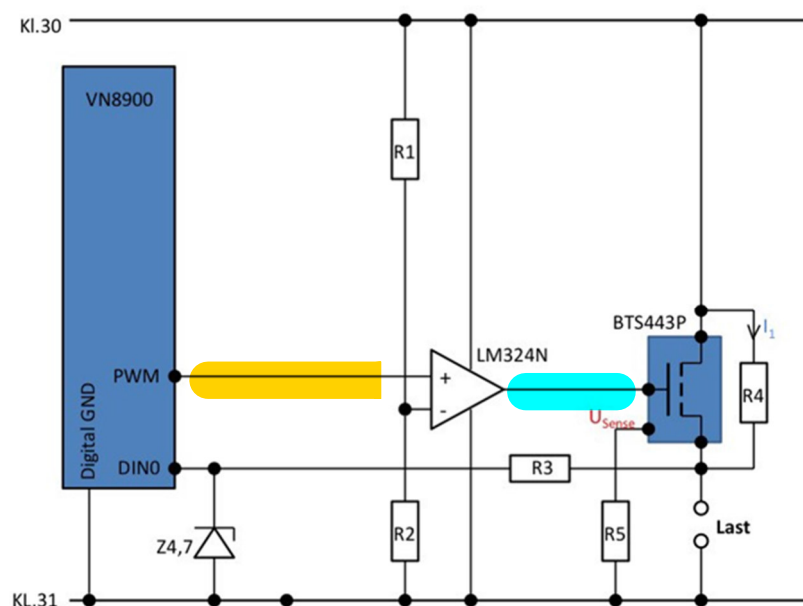

Figure 1: Electric circuit of the seat heating's control
Figure 1 shows the control circuit of the heating resistor as well as the VN8900 that you already know. Please search for information concerning the power switch used here, as well as for the operation amplifier.
- d) Please highlight (in colours) the different voltage levels in figure 1.
h) Please specify the calculation formula for  $R5 = f(V_{bb}, I_{Last}, K)$  referring to figure 1.